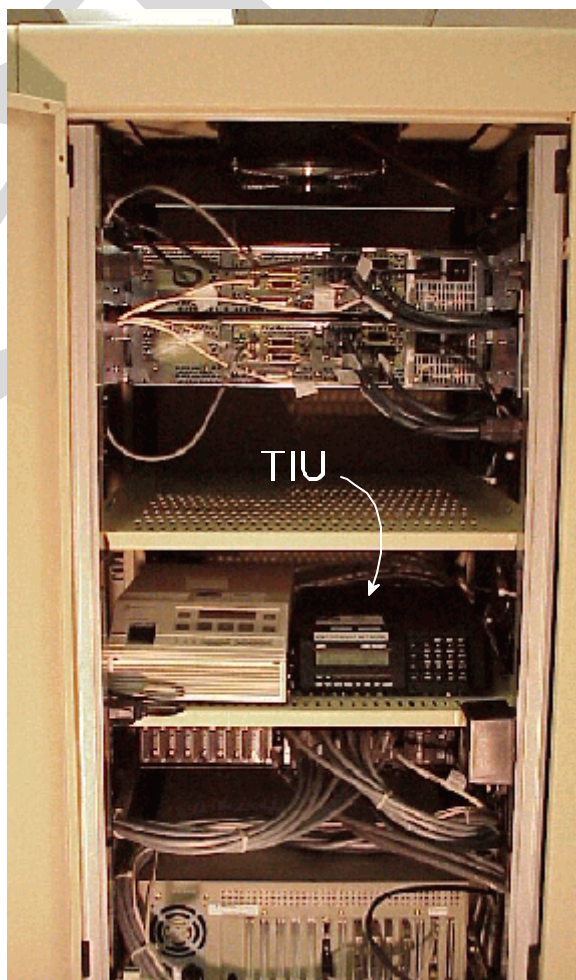

Figure 1
3. At the rear of the CP rack, open the door and locate the Terminal Interface Unit (TIU). See figure 1.